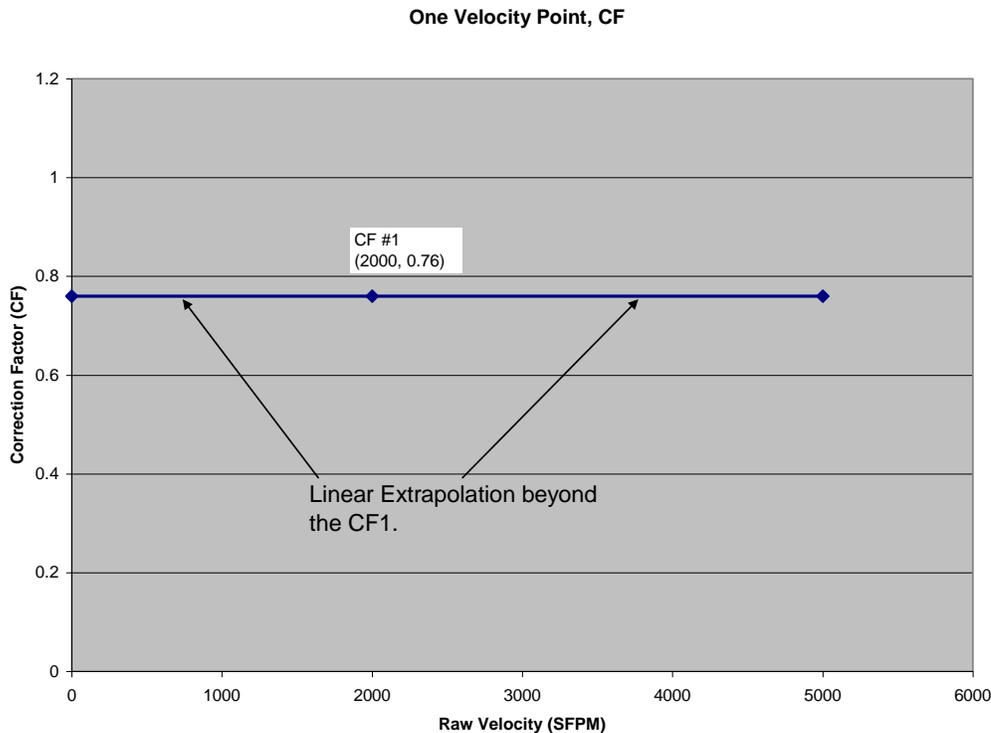

Figure AK-1 Correction factor function with one data point.
The variable correction factor examples shown in Figures AK-1 to AK-5 have a CF at velocity X. However, the flow meter's onboard menus to enter this data are based on two velocity numbers, the reference velocity (R) at the observed velocity data (D) as shown in Table AK-1.